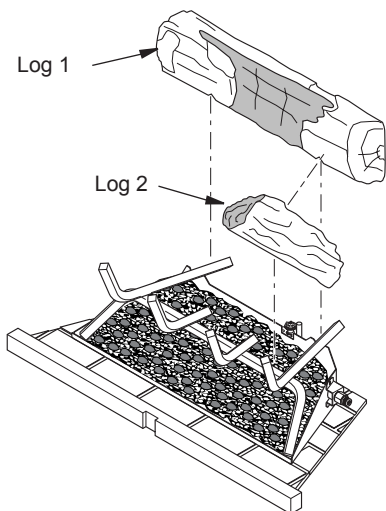

Figure 25 - Installing Logs 1 and 2
1. Place large back log (log 1) onto grate making sure notches rest over grate (see Figure 25).
2. Place log 2 onto front right side of grate and back of log 2 into notch on right front of log 1 (see Figure 25).